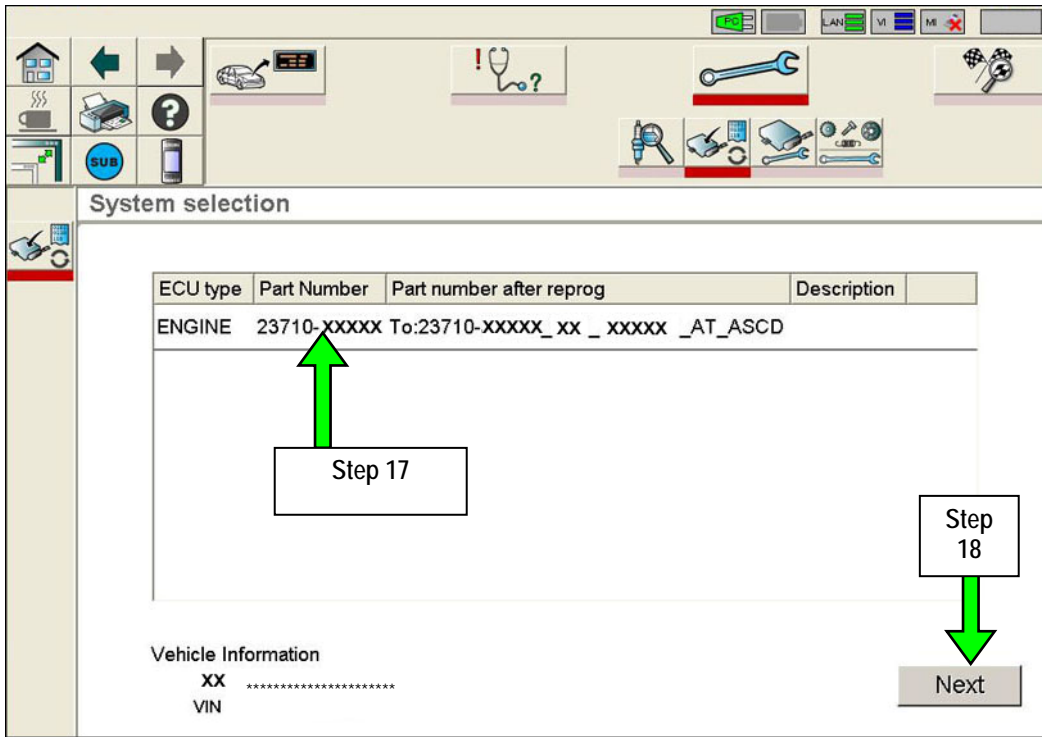

Figure 6
17. Refer to Figure 6 and your C-III screen.
18. Select **Next** (see Figure 6).